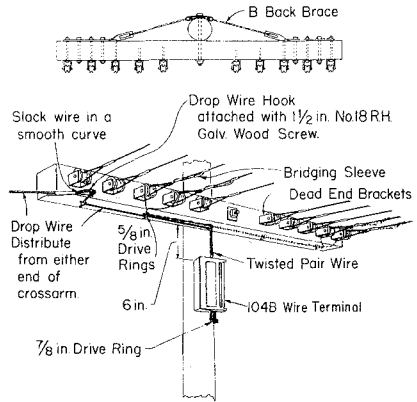

**Fig. 4 – Wiring Arrangement on DE Crossarms Not Having Back Braces**
**4.11 Crossarms Equipped with Deadend Brackets (Fig. 4).**
**4.13 At double crossarms equipped with dead-end brackets, follow the general wiring method shown in Fig. 4, locating the 101B2 terminal on the outer side of the crossarm not equipped with deadend brackets. Locate the wire end run on the underside of the same crossarm.**